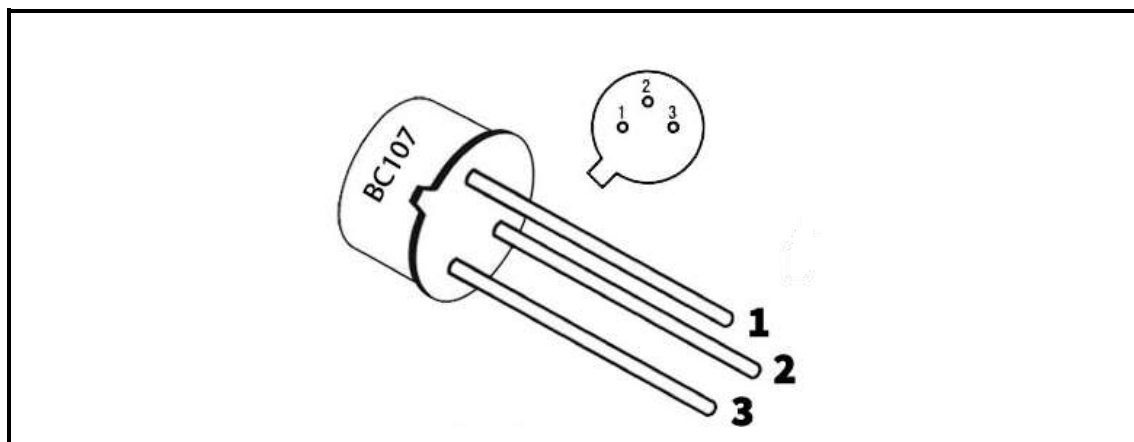

FIGURE 4.1.5: TRANSISTOR
4.1.5 Identify pins/terminals 1, 2 and 3 in FIGURE 4.1.5 below.